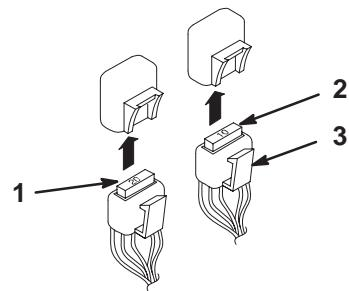

Figure 63
Fuse: Fuel Pump 10 amp, blade-type (Fig. 63)
Fuse: Engine Fuse 20 amp, blade-type (Fig. 63)
- Locate fuses in the left rear of machine. Pull plastic clip out and down to gain access to fuses in holders (Fig. 63).
- To replace fuses pull out on the fuse to remove it (Fig. 63).